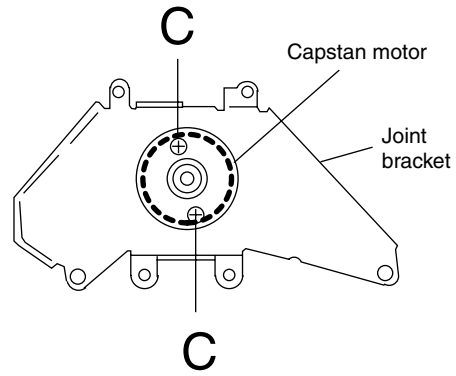

Fig.8
■ **Removing the capstan motor (See Fig. 8)**